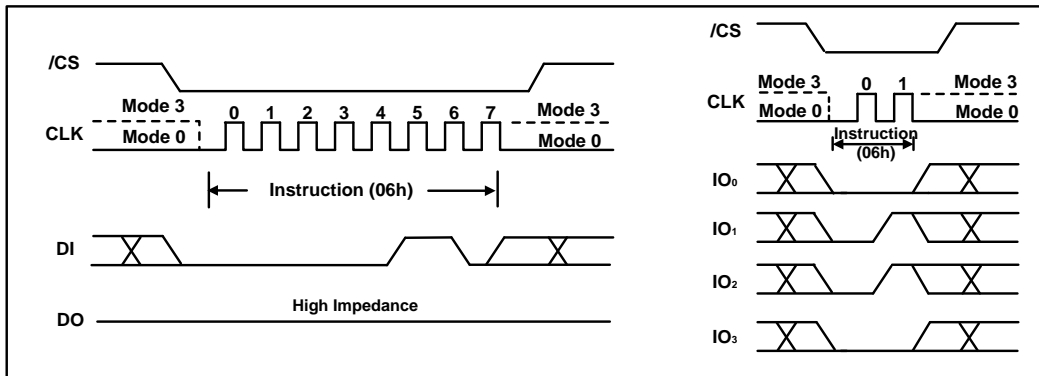

Figure 6. Write Enable Instruction for SPI Mode (left) or QPI Mode (right)
The Write Enable instruction (Figure 6) sets the Write Enable Latch (WEL) bit in the Status Register to a 1. The WEL bit must be set prior to every Page Program, Quad Page Program, Quad Data Input Page Program, Sector Erase, Block Erase, Chip Erase, Write Status Register-1 and Write Status Register-2 instruction. The Write Enable instruction is entered by driving /CS low, shifting the instruction code "06h" into Data Input (DI) pin on the rising edge of CLK, and then driving /CS high.